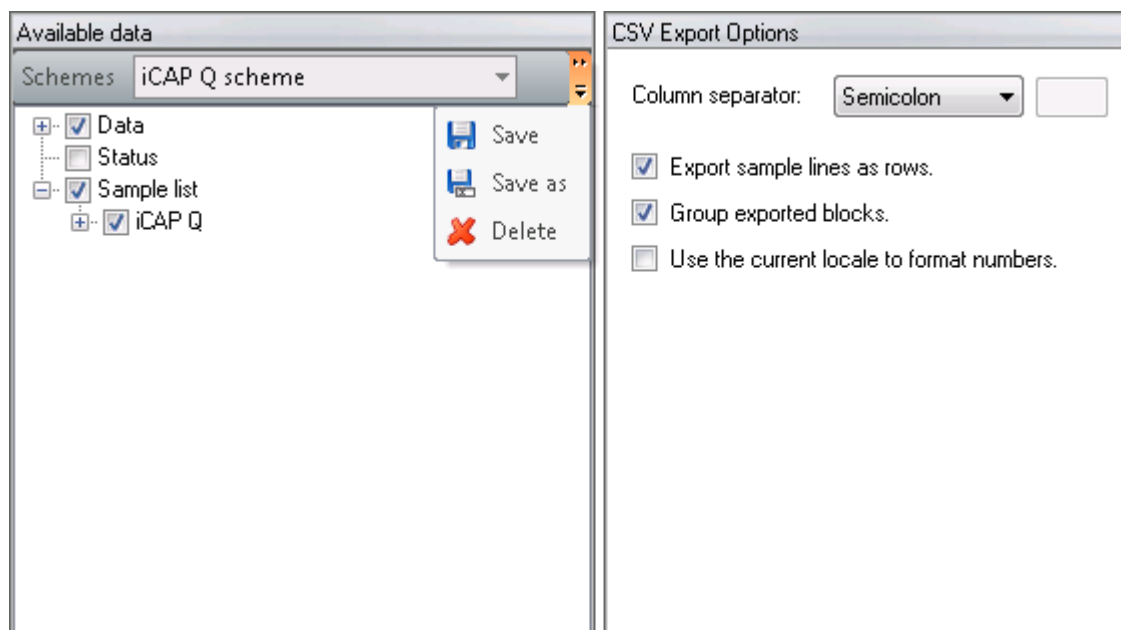

Figure 6-95. Automatic Export, CSV settings
5. Select the check box **CSV Export** to define these export settings, see Figure 6-95.